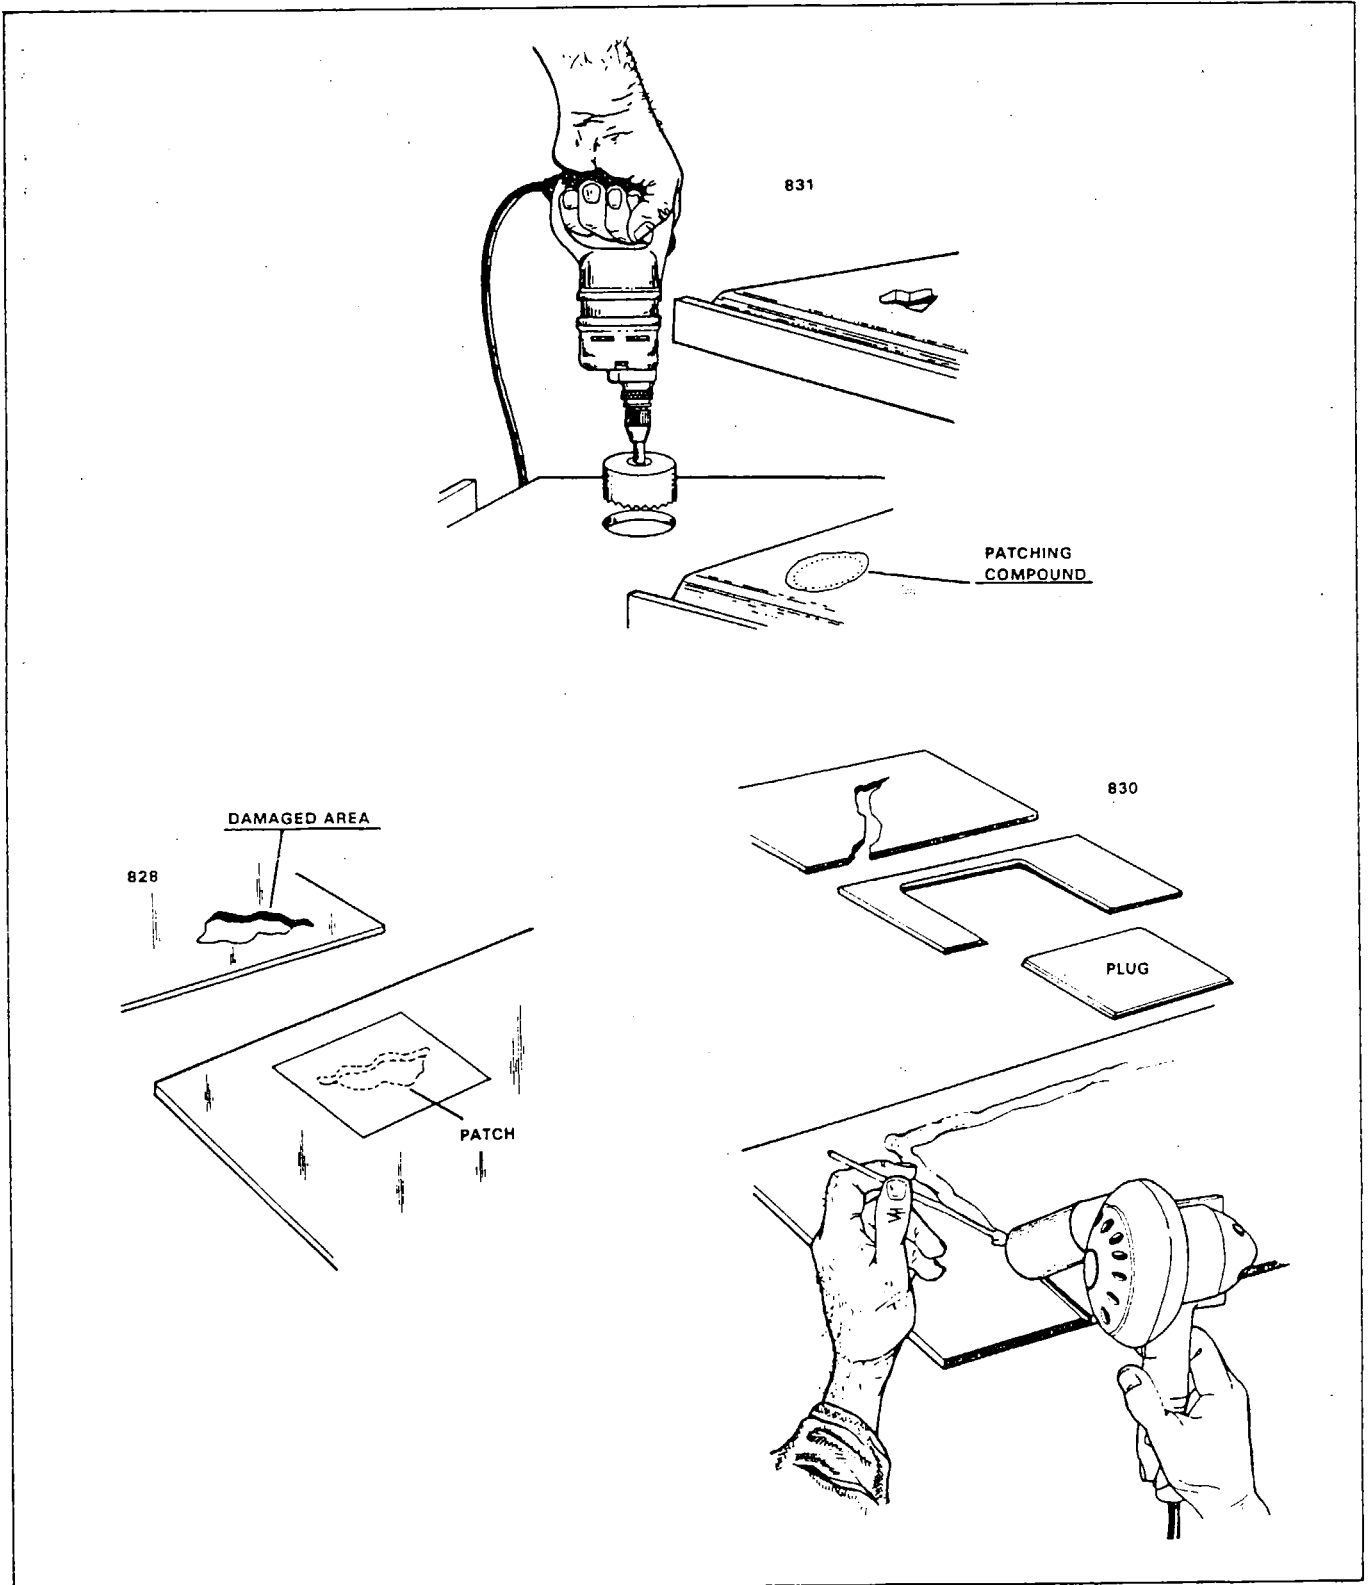

Figure 4-8. Various Repairs
- e. Repairing Major Damage: (Larger than 1 inch in diameter.) (Refer to Figure 4-8.)